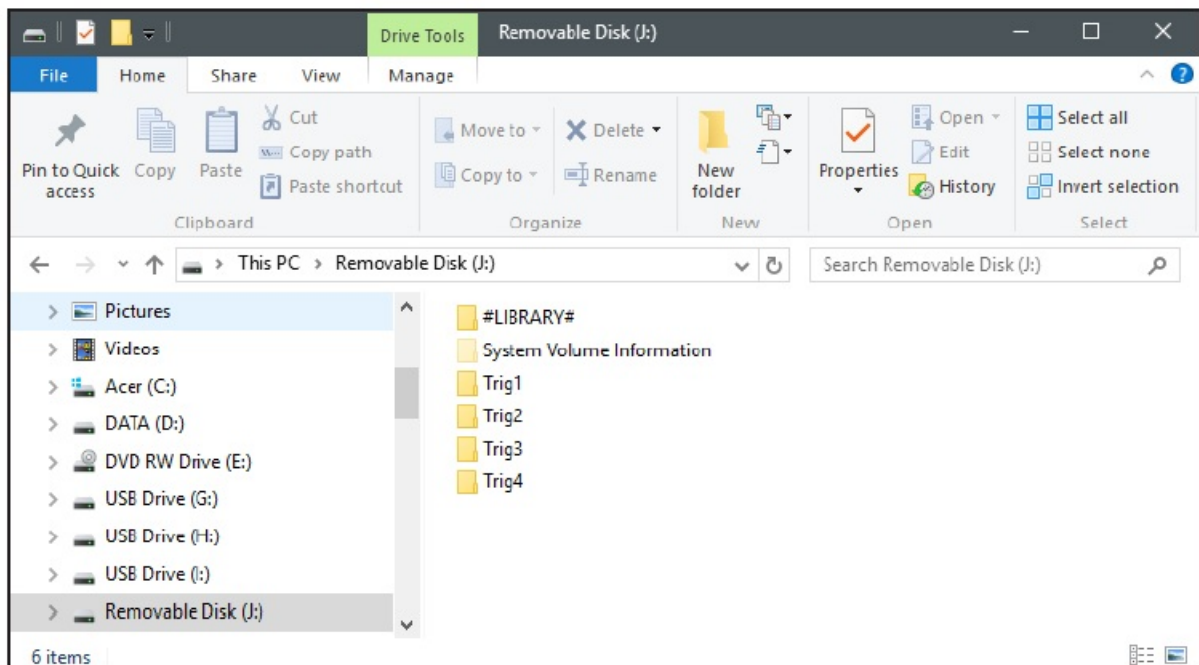

Fig 4
- **Step 3:** Open the Removable Disk and you should get a window that looks like figure 4.